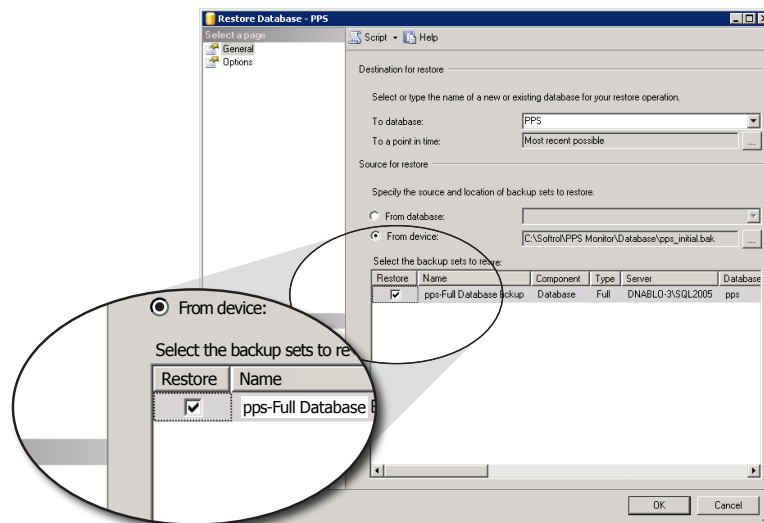

Figure 117. Restore Database restore checkbox.
11. Click the checkbox on the Restore Database dialog for the database you wish to restore from backup (see Figure 117).